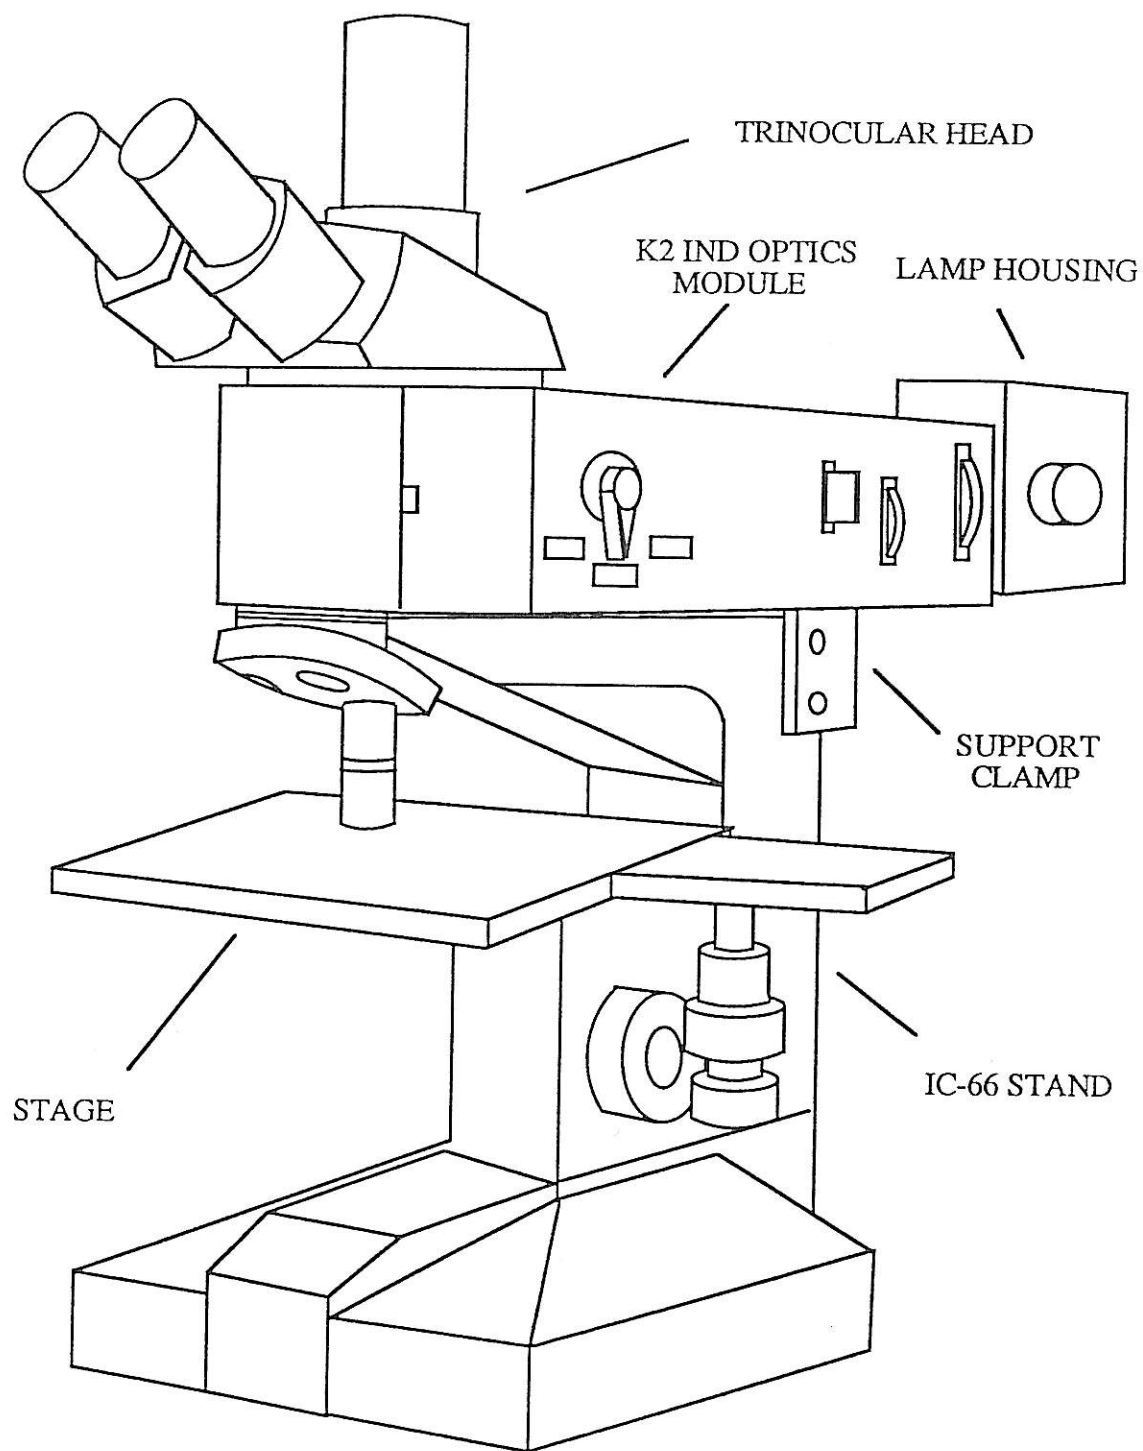

Figure 1 - K2 IND as mounted on IC-66
The K2 IND can be either operated as a stand-alone system with the images viewed through eyepieces as shown in Figure 1, or interfaced with a video camera and a computer system for image processing and measurement. An optional Focus Finder unit can be connected to the module and the microscope stand to offer the user a convenient method for locating the focal plane automatically while in the confocal mode. The user may also adjust the fine focus position remotely, using a Trackball positioning device.
- 1) Install the positioning plate (for Leitz Ergolux) or rear support clamp (for Nikon IC-66) to the microscope stand as shown in Figure 1.